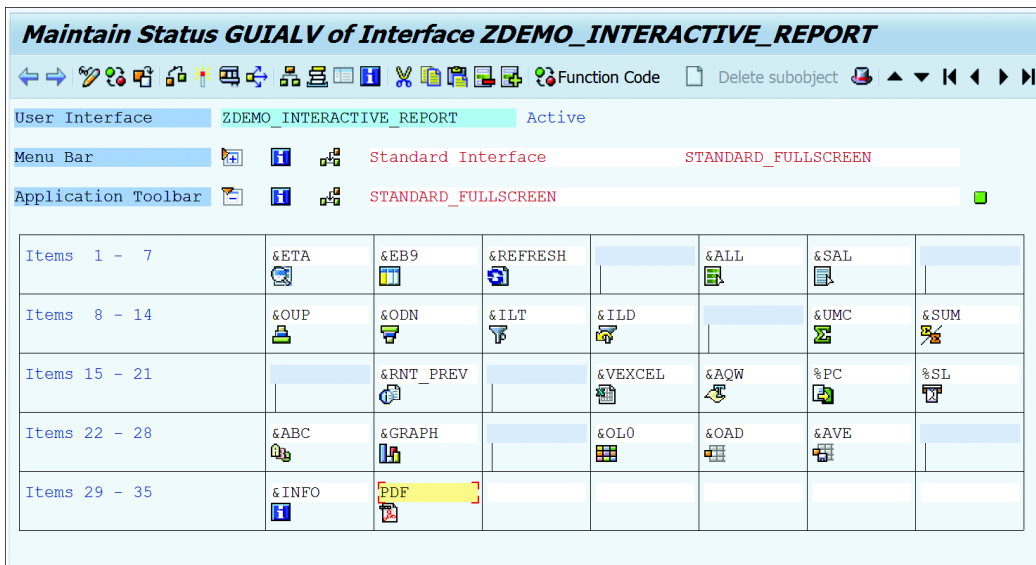

Figure 15.11 Adding Function Codes to Copied Status
- Once the status is copied, you can edit it to add or remove any function codes. In Figure 15.11, we added a PDF icon to the application toolbar with PDF as the function code. Note that all the standard ALV function codes start with &; this helps ALV to distinguish between standard function codes (which are part of ALV) and user-defined function codes. When you select a standard function code, ALV automatically handles the function code, but you need to handle custom function codes in your program.